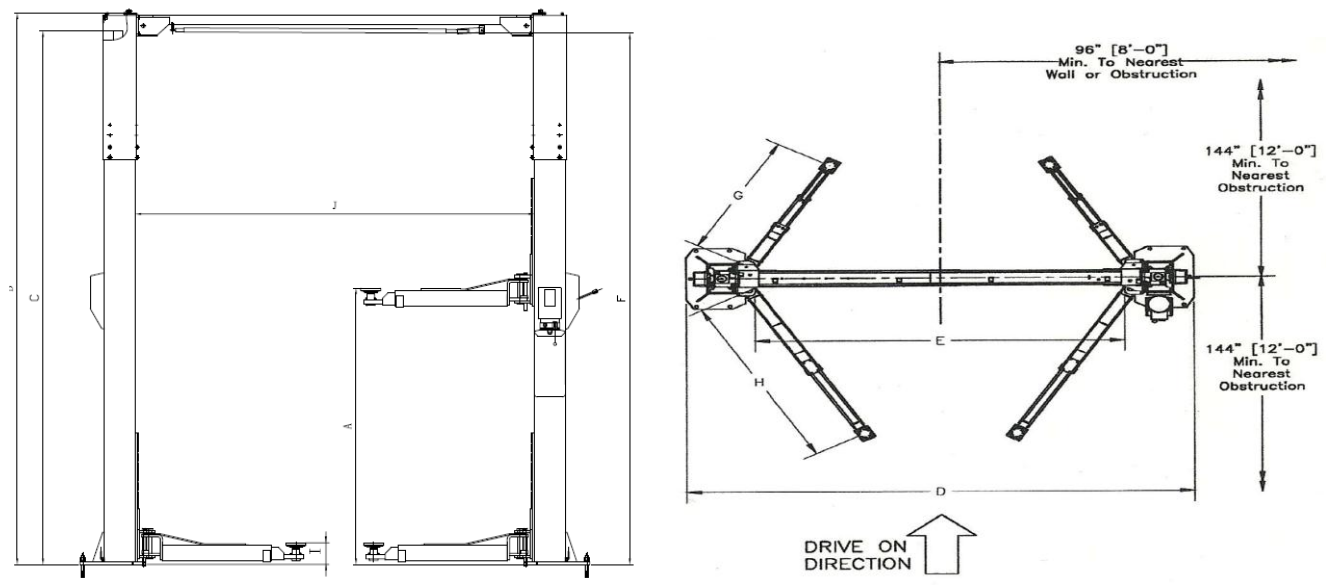

Figure 1-General Specifications and Service Bay Layout
* Layout the service bay according to the architect's plans or owners instructions (*see Fig 1*). Failure to install in this orientation can result in personal and property damage. Be certain that the proper conditions exist, see page 3.